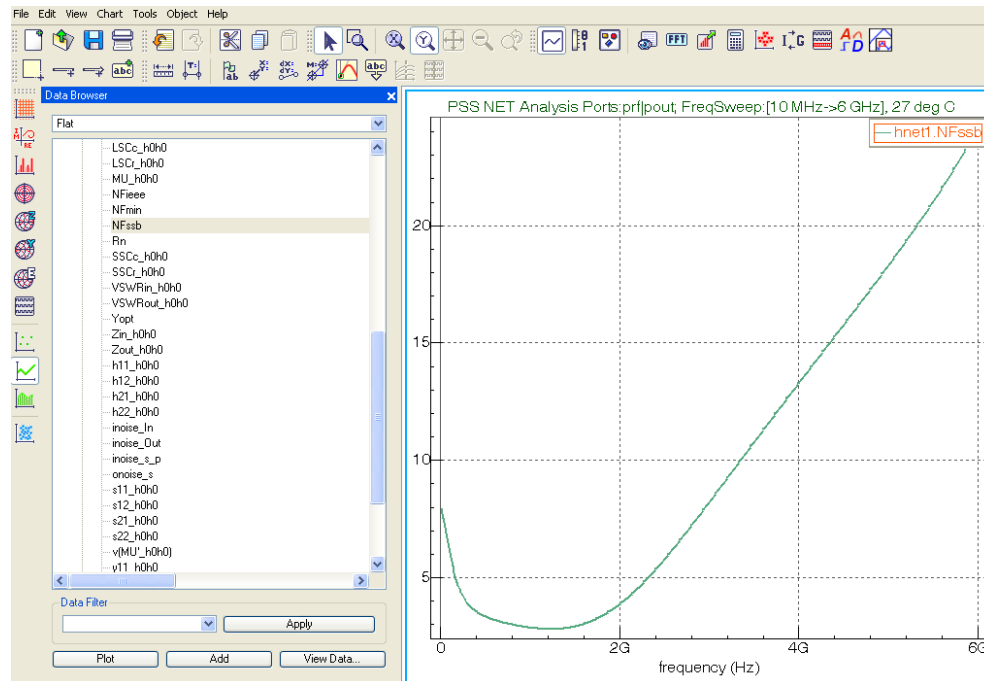

Figure 12: Noise Figure Plot
3.5: To display the Noise Figure plot, select the vector NFssb and click **Plot**. The LNA noise figure at 2.4 GHz is 5.3 dB (Figure 12).